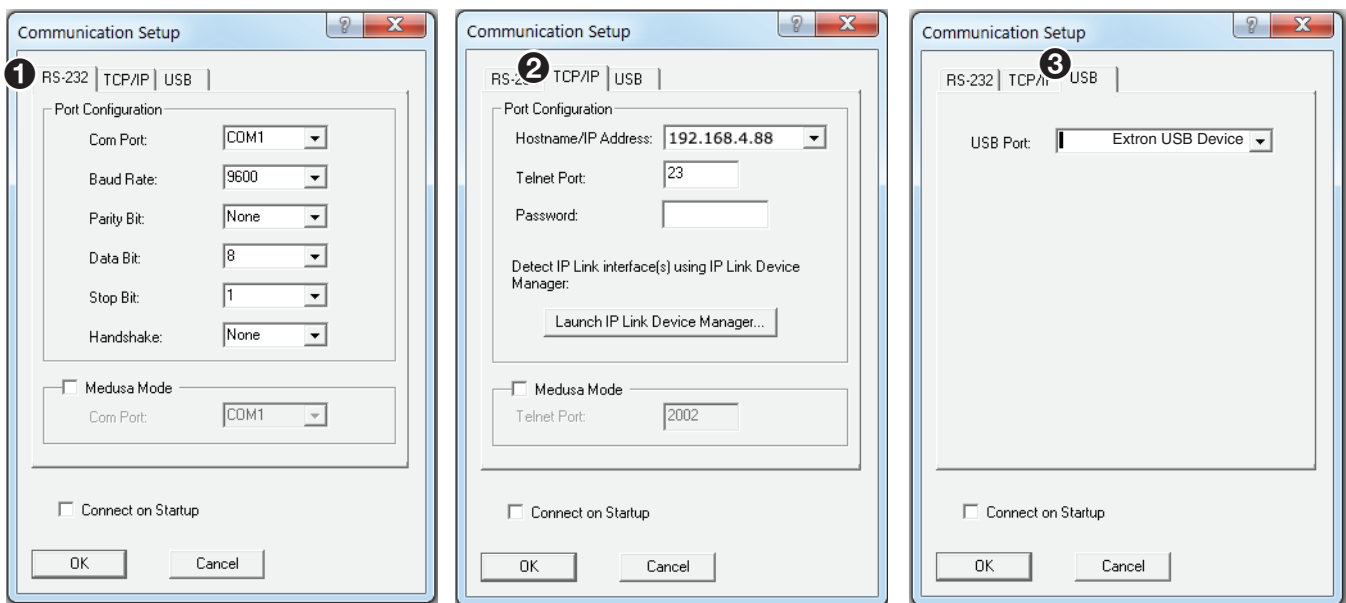

Figure 75. Communication Dialogs
2. The **Communication Setup** dialog box opens. Select a **Communication** tab (see figure 75).
- a. Select the **Comm Port** (RS-232) tab (shown with the correct protocol settings below) if using the rear panel RS-232 port (❶).
- b. Select the **TCP/IP** tab if using a network connection (❷).
- c. Select the **USB** tab if using the front panel config port (❸).
3. On the **Communication Setup** window (see figure 75):